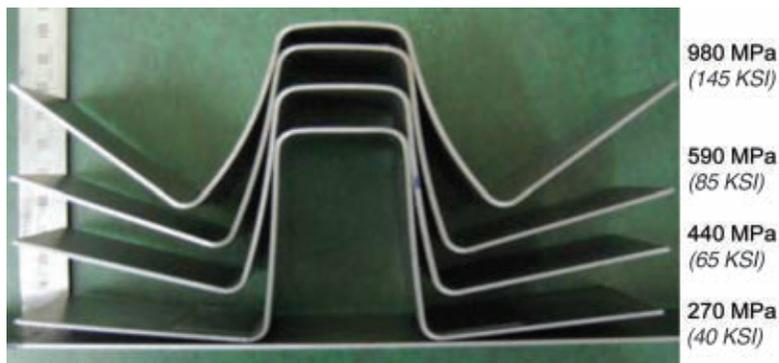

Figure 1
- **More springback** caused by higher strength (see **Figure 1**)